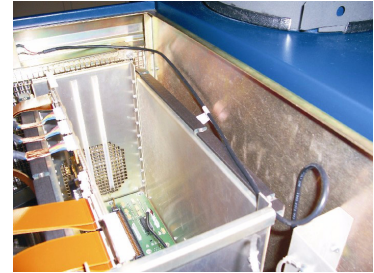

Figure 6 Route harness cable
4. Route Harness Cable around the Card Cage (Figure 6).